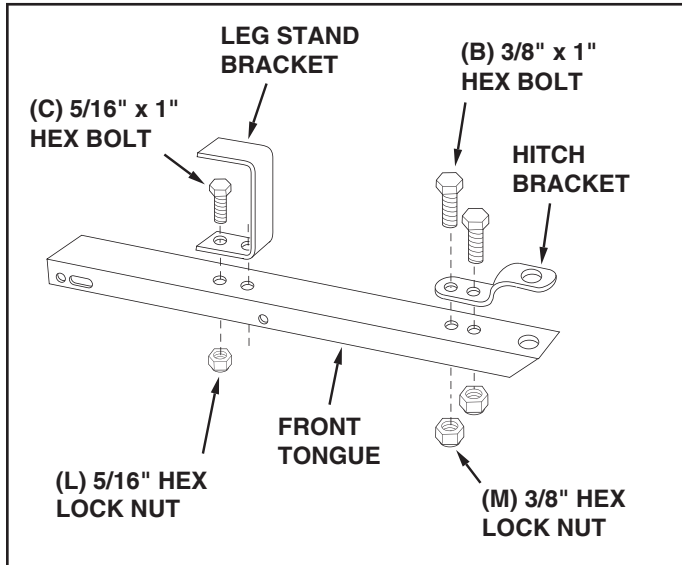

FIGURE 4
8. Assemble the hitch bracket to the front tongue using two 3/8" x 1" hex bolts (B), and 3/8" hex lock nuts (M). **Tighten.** See figure 4.
9. Assemble the leg stand bracket to the front tongue using two 5/16" x 1" hex bolts (C) and 5/16" hex lock nuts (L). **Tighten.** See figure 4.